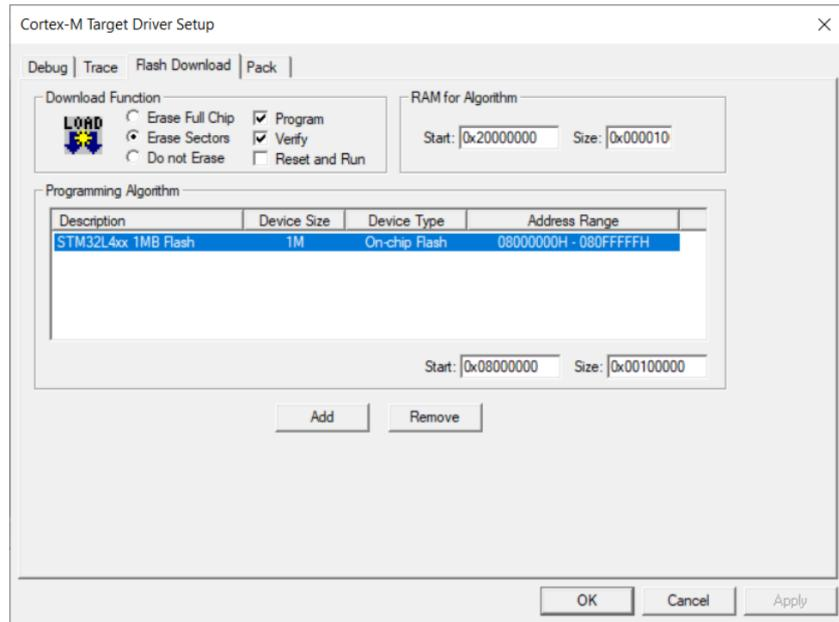

Figure 14
When you program the Nucleo board, you may get an error saying "Flash download failed". Go into **Options for Target**, click the **Debug** tab, and click the **Settings** button on the top-right of the window (see Figure 6). In the new window that pops up, click the **Flash Download** tab and ensure that under the **Programming Algorithm** section, the option **STM32L4xx 1MB Flash** is selected (see Figure 14). If the option is not present, click the **Add** button to add the option.
- Under the **Flash Download** tab, select the STM32L4xx 1MB Flash option for the **Programming Algorithm** (see Figure 14). If this option is not present, manually add and select it by clicking the **Add** button.